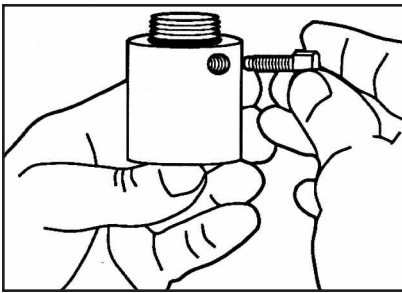

Figure 47
8. Use the same wrench to remove the bleeder plug from the fluid cylinder. (Fig.47)